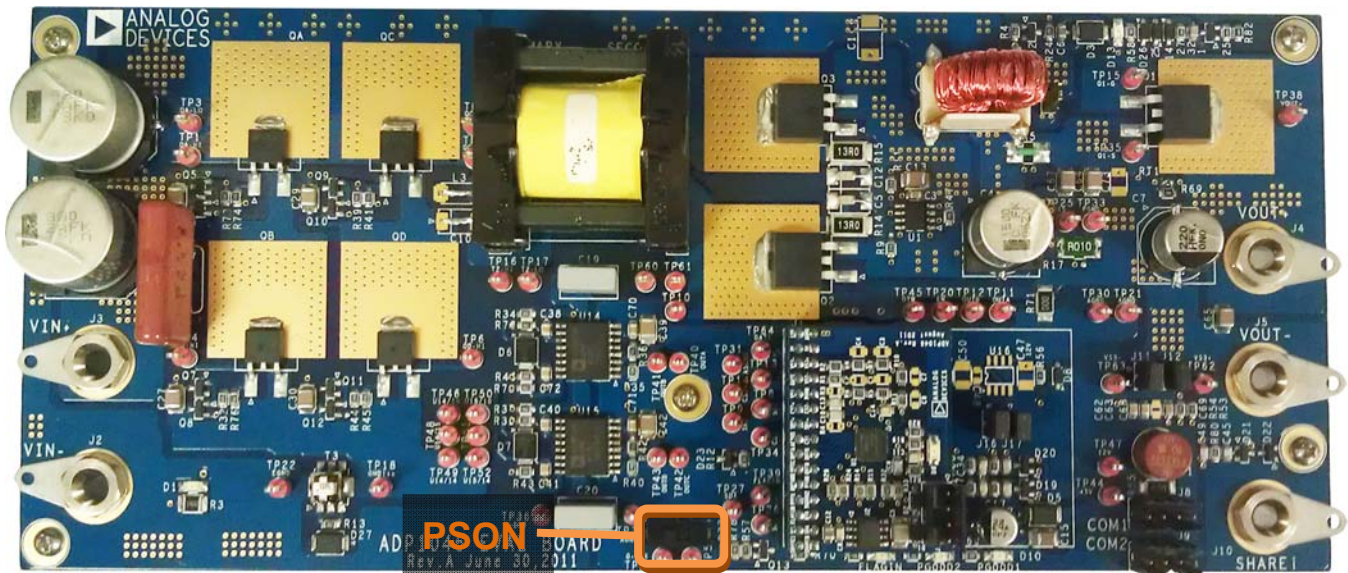

Figure 4 - 100W evaluation board showing PS_ON hardware switch
- 2) Insert the daughter card in connector J1 as shown in Figure 4.
- 3) Ensure that the PS_ON switch (SW1 on schematic) is turned to the OFF position. It is located on the bottom left half of the board (Figure 4).